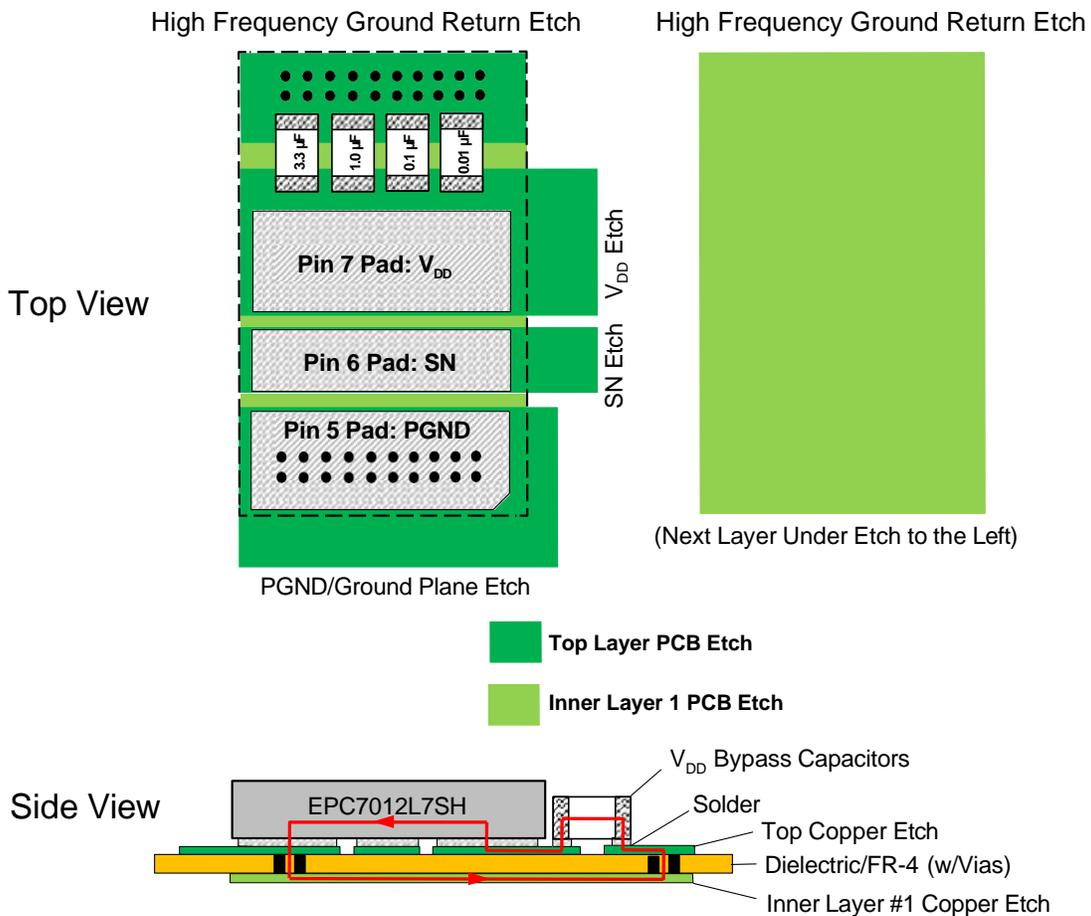

Figure 4. Recommended Optimum VDD-to-PGND Power Supply Bypass Capacitor Layout (Not to Scale)
Because of the extremely high slew-rate of voltage seen at the SN output it is recommended that a minimum of one (1) 3.3 μF microfarad ceramic capacitor, one (1) 1.0 microfarad ceramic capacitor, one (1) 0.1 microfarad ceramic capacitor and one (1) 0.01 microfarad ceramic capacitor, all with sufficient voltage de-rating, be connected from VDD to PGND. All four of these capacitors should be low ESR types, if possible. It is strongly recommended that these capacitors have the smallest possible case sizes possible such that they inscribe the smallest possible loop area between VDD and PGND so as to minimize the inductance related to this loop area. Also, to reduce the inductive loop between VDD and PGND is strongly recommended that an induction loop cancellation layout of the high frequency power supply capacitors be employed. Figure 4 illustrates the recommended optimum layout and placement for the VDD-PGND high-frequency bypass capacitors.
It should be noted that in Figure 4 that the light green copper etch area on the PCB's inner layer #1 is positioned directly beneath the copper etch clad on the top layer, as indicated by the dashed line.